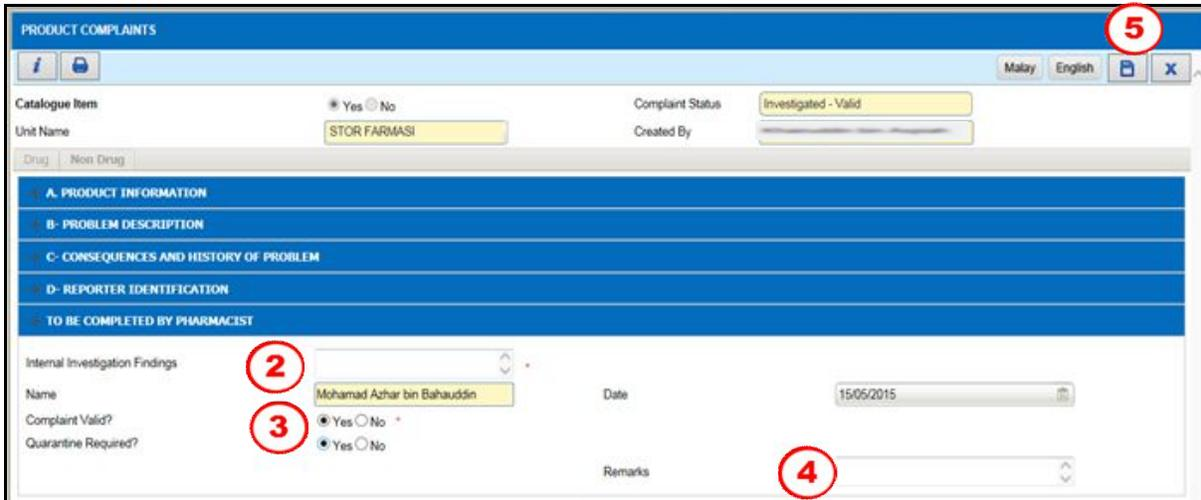

Figure 3.2.4-3 Investigation – Valid Product Complaints record
- These five (5) panels can be maximized / minimized by clicking on its Header in the Investigation - Pending Product Complaints form:
- DIS pharmacist needs to fill in the 'To Be Completed by Pharmacist' section as shown in Figure 3.2.4-3.